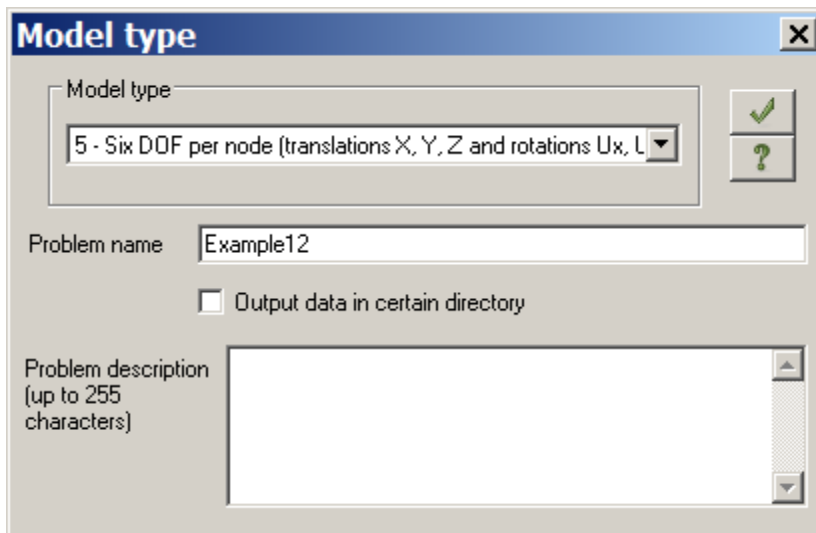

Figure 12.2 **Model type** dialog box
- ⇒ In the **Model type** dialog box (see Fig.12.2) specify the following data: